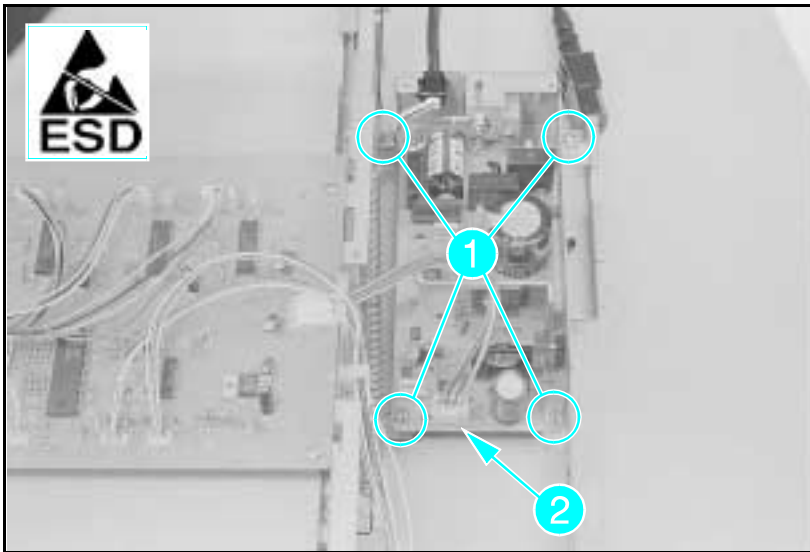

Figure A-18 **Power PCA**
- 1** Remove the (6) cover screws, (4) on the top and (2) on the side. Remove the cover.
- 2** Remove the (4) screws from the Power PCA (see Figure A-18, callout 1).
- 3** Unplug the connector (see Figure A-18, callout 2).